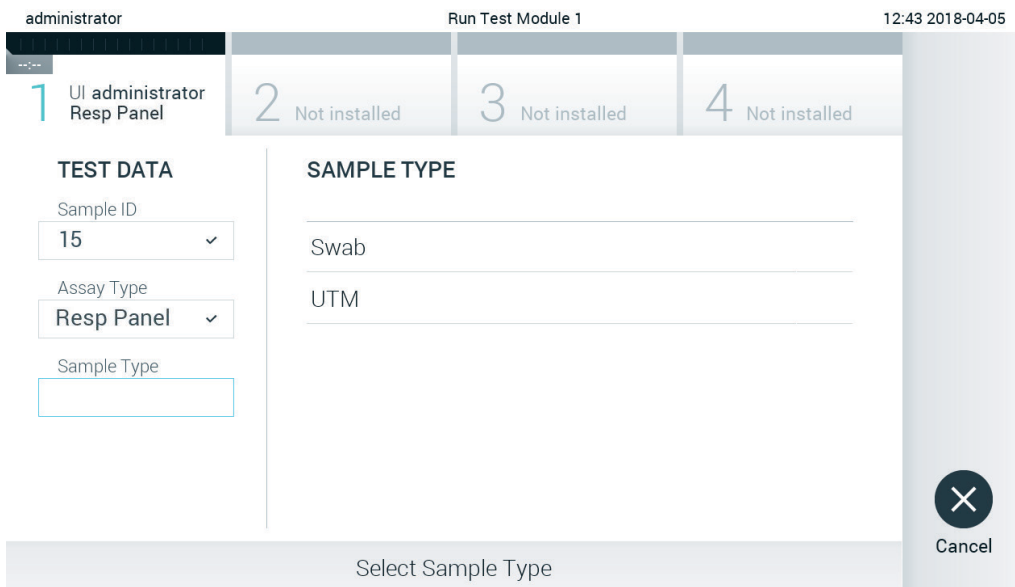

Figure 78. Selecting sample type.
- The **Assay Type** field will be automatically entered and, if required, an appropriate **Sample Type** must be manually selected from the list (Figure 78).